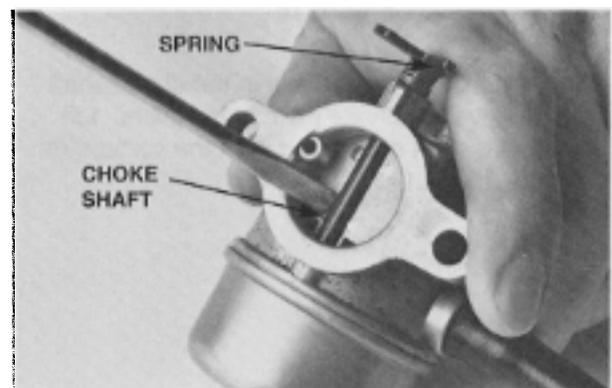

Figure 21
7. Install the choke shaft and spring as shown (**Figure 21**).